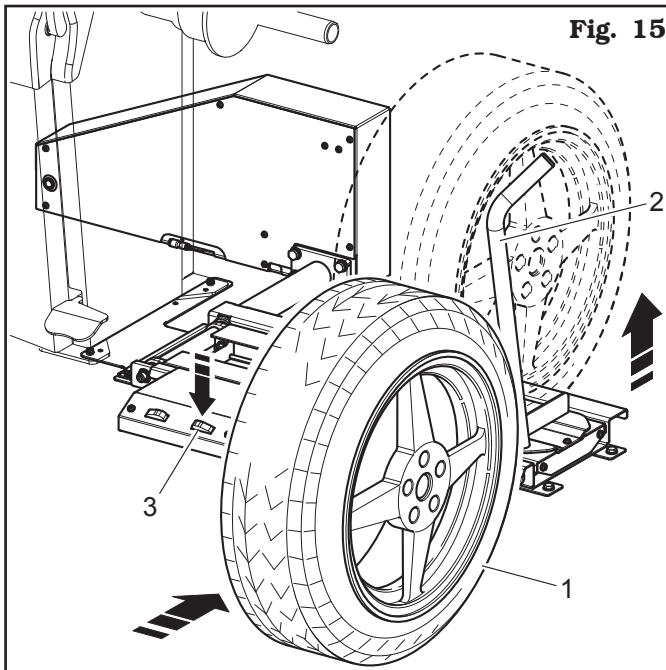

Fig. 15
- Place the wheel (Fig. 15 ref. 1) on the wheel support (Fig. 15 ref. 2).
- Press the pedal for rising (Fig. 15 ref. 3) to make the wheel rise (Fig. 15 ref. 1) of a few centimetres.
IN THIS PHASE THE WHEEL (FIG. 15 REF. 1) AND THE WHEEL SUPPORT (FIG. 15 REF. 2) MUST NOT BE TOUCHED.
- Press the rising pedal (Fig. 15 ref. 3) to make the new wheel rise until its axis matches that of the wheel balancer mandrel.